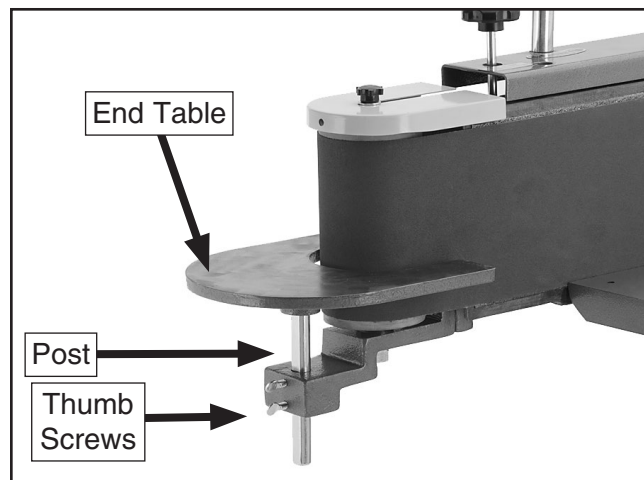

Figure 27. End table installed.
2. Insert the end table post into the bottom of the end table so the flat part of the shaft faces away from the end of the sander, as shown in **Figure 27**.
3. Unscrew the thumb screws, slide the end table into place, as shown in **Figure 27**, and tighten the thumb screws when the table is at the desired working height. It is not necessary to have the end table mounted at all times—it can be installed when needed.